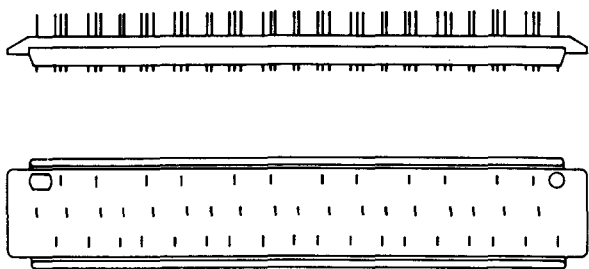

Fig. 7—507A Plug
2.06 507A: The 507A plug (Fig. 7) consist of 48 gold-plated blades with a plastic body. The 507A plug is arranged so that the blades will mate with the contact spring clip jacks on the terminal